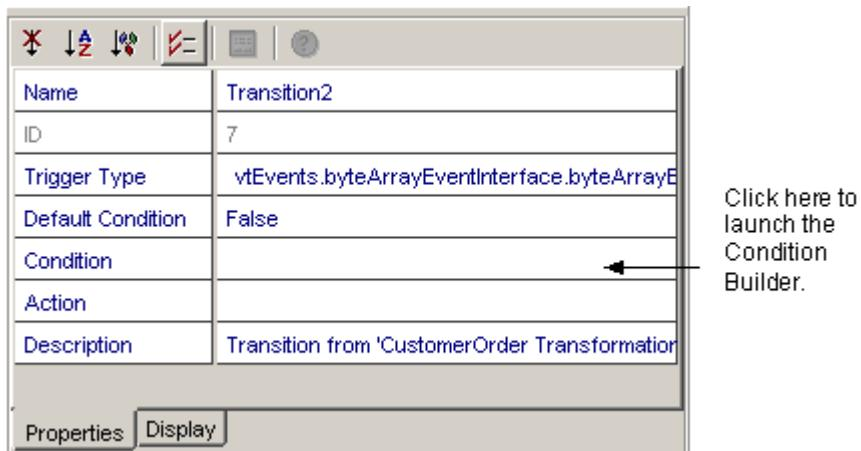

Figure 14-5 Condition Builder Access
2. In the Properties window, select the Condition property, and browse to open the Condition Builder (Figure 14-5).
1. Select **Match All Expressions** or **Match At Least One Expression** in the Code Builder (Figure 14-5).